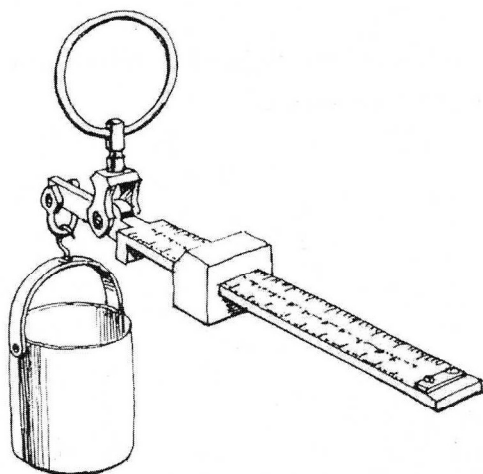
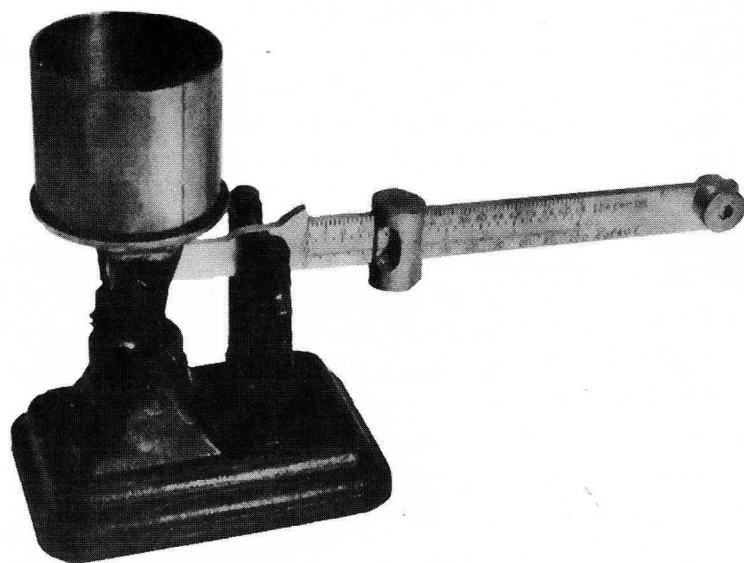

Figure 10. ▲▲ A hand-held grain tester made by Fairbanks & Co. of America, c.1900. It includes graduations for the percentage of good grain.
Figure 11. ▲▲ A table steelyard grain scale, or "cornometer", made by Fairbanks & Co. of America, c.1920. Brass with an iron base.
In America, the Fairbanks "grain tester" was a hand-held instrument of the steelyard variety, with a bucket capacity of half, two or four pints (figure 10). The beam was marked with three sets of graduations to indicate the actual weight of the sample, the estimated weight per bushel, and the percentage of good grain. To determine the latter, the sliding weight is set to 100%, and grain is poured into the bucket until the beam balances. The grain is removed and all dirt and chaff is taken away. The grain is returned to the bucket and, after re-balancing by adjusting the position of the weight, the percentage of good grain is read directly from the beam, at the new position of the weight. Similar facilities were provided on the Fairbanks table-steelyard (figure 11) which, unlike its British counterpart, was not intended to be readily portable.
Fig. 11. ▲▲ Close-up of Vandome, Titfords & Pawson (A) showing the brace below the iron handle. The straight-sided weight-pan, the hex nut and the round bearing on the fulcrum are visible.